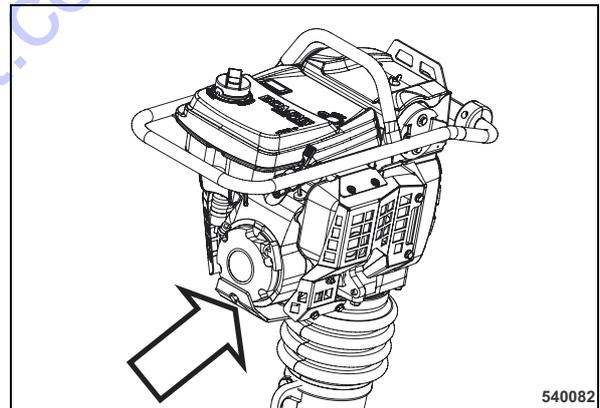

Fig. 47
- Remove the top engine cover (Fig. 47).